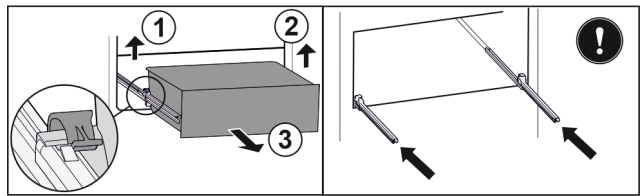

Fig. 177
- ▶ Lift left clamp and simultaneously pull drawer forwards on the left. Fig. 177 (1)
- ▶ Lift right clamp and simultaneously pull drawer forwards on the right. Fig. 177 (2)
- ▶ Remove drawer to the front. Fig. 177 (3)